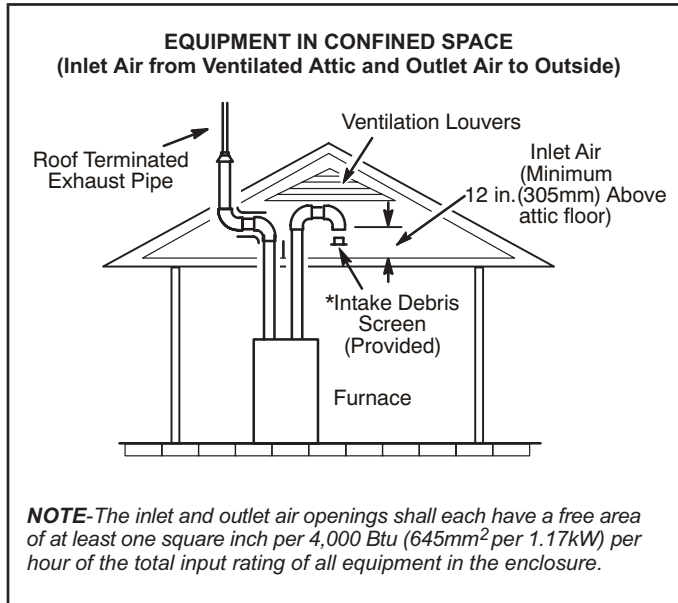
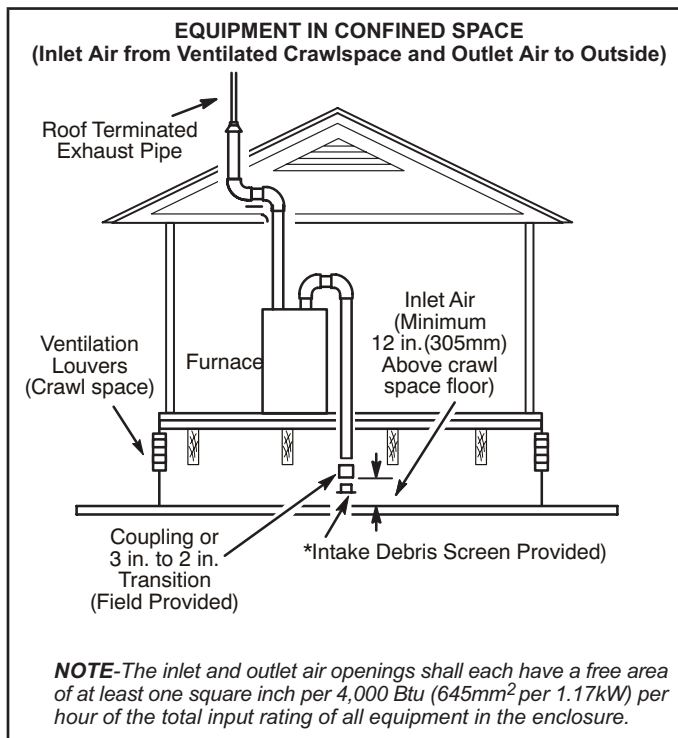

FIGURE 27
FIGURE 28
- 2 - If intake air is drawn from a ventilated attic (figure 27) or ventilated crawlspace (figure 28) the exhaust vent length must not exceed those listed in TABLE 13. If 3" diameter pipe is used, reduce to 2" diameter pipe at the termination point to accommodate the debris screen.